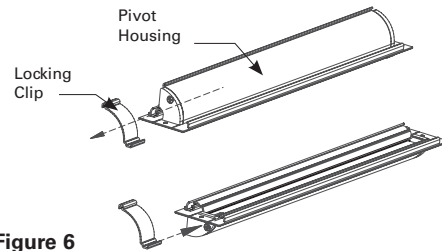

Figure 6
- If the fixture is to be wall mounted, first, loosen the set screw on the back of the pivot housing. Then remove the locking clip by sliding it to the end of the pivot housing (See Figure 6). Rotate the pivot housing